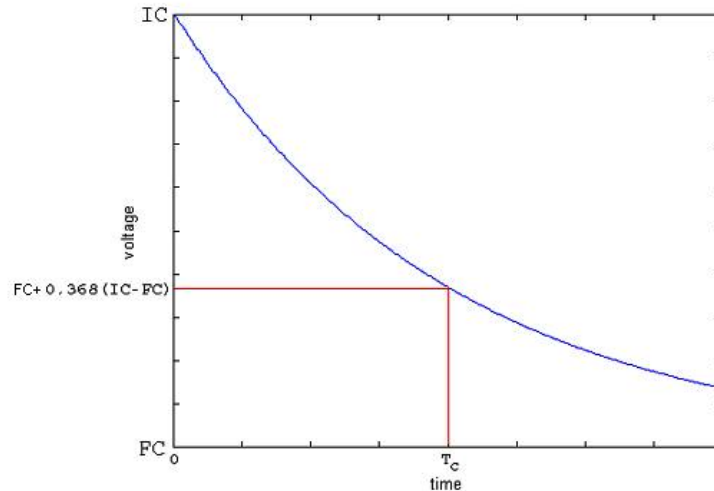

Figure 4. Oscilloscope display of exponential decay waveform
- b. Adjust the scope's horizontal and vertical position knobs and the trigger slope and level so that the waveform is completely visible (zoom in), but fills the scope face. Line up the **start** of the exponential waveform with the vertical grid line on the left edge of the scope face. Set the horizontal scale (time base) so the trace looks something like Figure 4. It is not necessary that you be able to see 5 time constants; but it is good practice to expand the display so that at least 50% of the scope face is used for measurements (as shown in Figure 4).
- c. Method 1 of MEASURING the time constant This method uses no calculations and uses the definition of the time constant to measure it. The time constant is defined as the time it takes the voltage to decay by a factor of $(1/e)$ of the voltage difference $(IC-FC)$, or rise by a factor of $(1-1/e)$ of the voltage difference $(IC-FC)$. The decay case is depicted in figure 4 above.
Set up the scope to display the discharge cycle, i.e. the part of the waveform when the voltage is decreasing (shown in Figure 4). Adjust the voltage cursor V1 to 0.368 $(1/e)$ of the voltage difference $(FC-IC)$ above the FC value (in other words, set the cursor to $FC + 0.368(IC - FC)$). Set the first time cursor t1 to the beginning of the decay, i.e. the initial value of the waveform at the left side of the display. Then adjust the second time cursor t2 to correspond to where the V1 cursor and the decaying waveform intersect. The value of Δt displayed on the scope screen is the time constant T_c . Record this value in Data Table 3.
- d. Method 2 of MEASURING the time constant T_c – curve fitting: **Use Benchlink Scope as described in Appendix 1.** This display will be analyzed as part of your lab write up. Because you will use this display to determine T_c it is very important that you adjust the voltage sensitivity to get a display similar to that shown in Figure 4. You can use the oscilloscope's vertical positioning adjustment to accurately place the waveform's start at the left top of the screen.
- a. Determine (IC - FC) from your first printout. This value of (IC - FC) should be the peak-to-peak voltage of the source and should be near 8 V. Locate the voltage $0.368 \cdot (8 \text{ V}) = 2.94 \text{ V}$ from FC on your printout. This should typically be about one third of the way up from the bottom of the oscilloscope display (as shown in Figure 4). This voltage level is significant because one time constant has elapsed when the exponential has decayed to 36.8% of the difference between the initial voltage and the final voltage. Determine this time T_C from your plot.